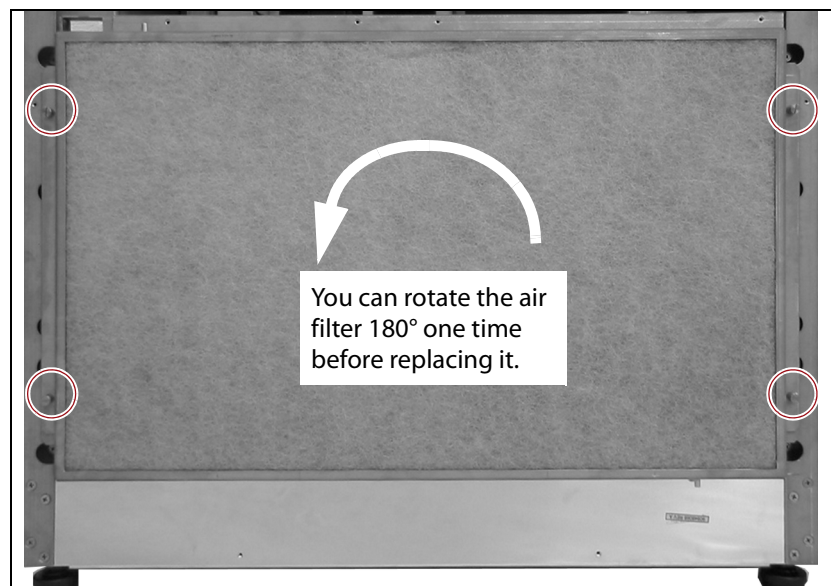

Figure 300 Loosen the four captive screws that secure the air filter to the frame.
3. Use a flat head screwdriver to loosen the four captive screws on the air filter (circled in Figure 300).
- If the filter was not previously rotated, rotate it 180°, top to bottom (see Figure 300 on page 467).
6. Use a flat head screwdriver to tighten the four captive screws to secure the filter to the frame (see Figure 300 on page 467).